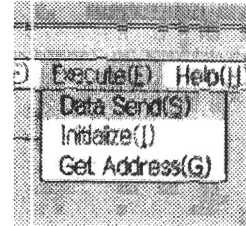

Figure 4-7
② "Execute(E)" pull-down menu (Figure 4-7)